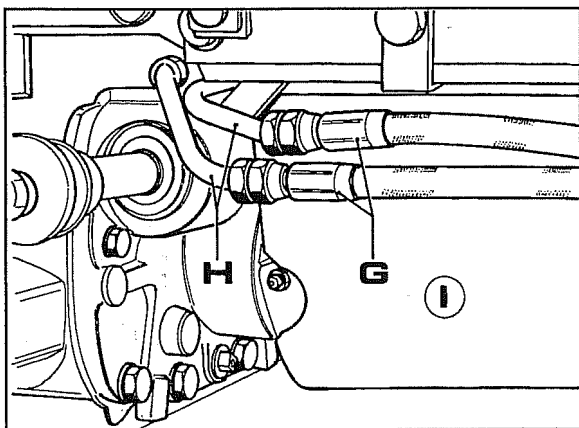

Fig. 75
7. Disconnect the two lines **G** Fig. 75. Put plugs in the ends of lines **H** to prevent the oil from leaking out every time the front wheels are turned.